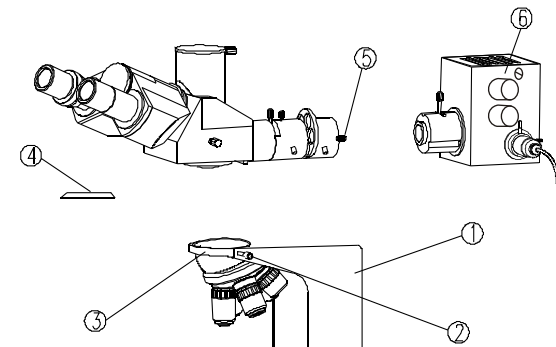

Fig.3
Take off the shade ④ of auxiliary lens under the reflected illumination, installation the reflected illumination on the socket ③ of body ①, tighten up the tube holding screw ②. (Fig.3)